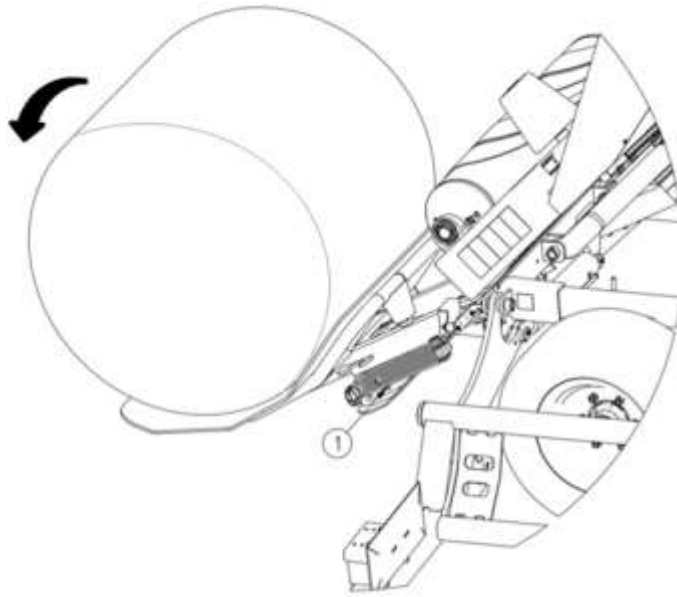
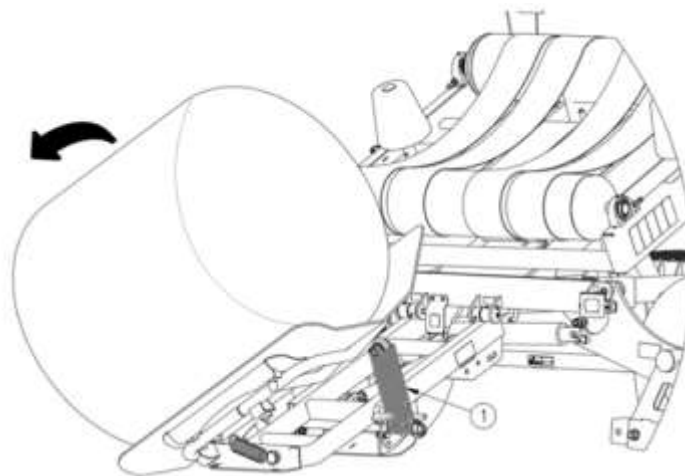

Figure 24 Unloading setting
Figure 25 Unloading setting
(1) Adjustable arm
The operation of the bale tipper depends on the position of the adjustable arm (1). When the arm is in the horizontal position, the bale will roll down behind the bale wrapper (Figure 24), while if the arm (1) is in the vertical position (Figure 25), the bale will roll down to the side.